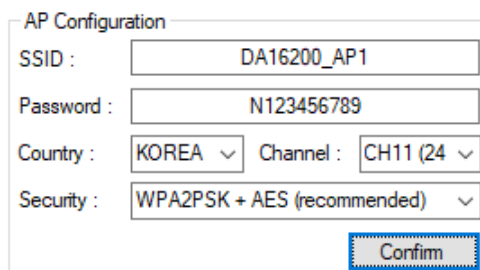

Figure 20: AP Configuration
2. Set the fields SSID, Password, Country, Channel, and Security mode. See Figure 20.